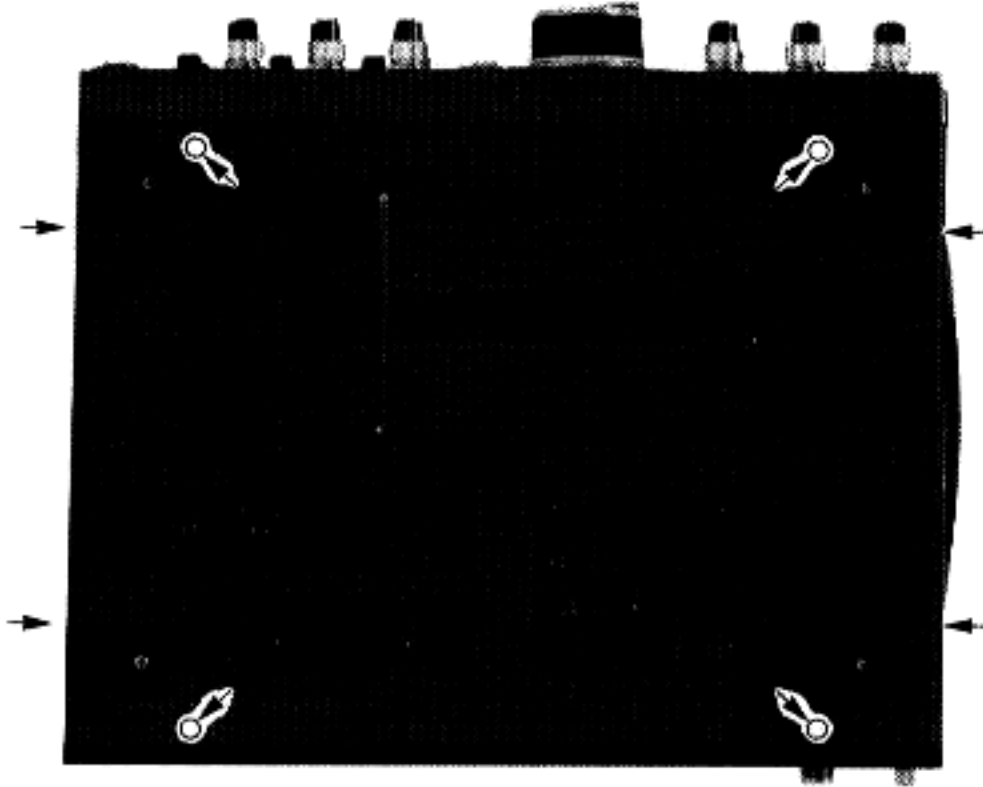

Figure 3
- 4) Place the transceiver upside down, and remove the four screws from the bottom corners and two on each side (including the carrying handle screws, see Figure 3). Then remove the handle and the bottom cover.